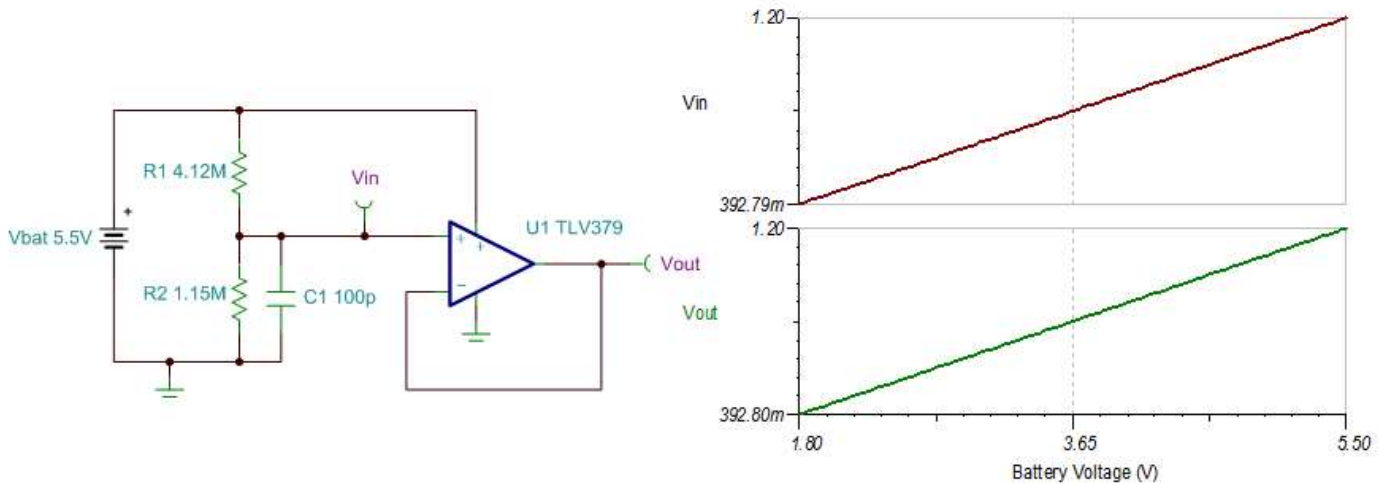

Figure 1: Battery-voltage measurement circuit using the TLV379
In figure 1, you will see an example battery-voltage measurement circuit using the TLV379 configured as a unity-gain buffer. To prevent violations of the amplifier's common-mode input voltage range or output voltage swing, the battery is divided down using R1 and R2. In this case, a 1.8V-5.5V battery voltage will create a 0.393V-1.2V output voltage, which fits within the common 0V-1.2V range for analog-to-digital converters (ADCs) on many low-power microcontrollers.
- Equation 1 shows the transfer function for the circuit in Figure 1. Be sure to use high-value resistors for the divider to minimize current consumption. You can place a low-pass filter at the output of the circuit to limit the signal bandwidth and output noise. However, like most low-power op amps, the TLV379 does not perform well while driving capacitive loads, so check the stability of the circuit when designing output filters with capacitances to GND.
The main error contributors in the circuit shown in Figure 1 are the tolerance of the resistors in the divider and the offset voltage of the op amp. Other error sources come from the op-amp's CMRR and the input bias current flowing through the voltage-divider resistors.
Table 2: Error calculations for the TLV379 voltage-measurement circuit shown in Figure 1